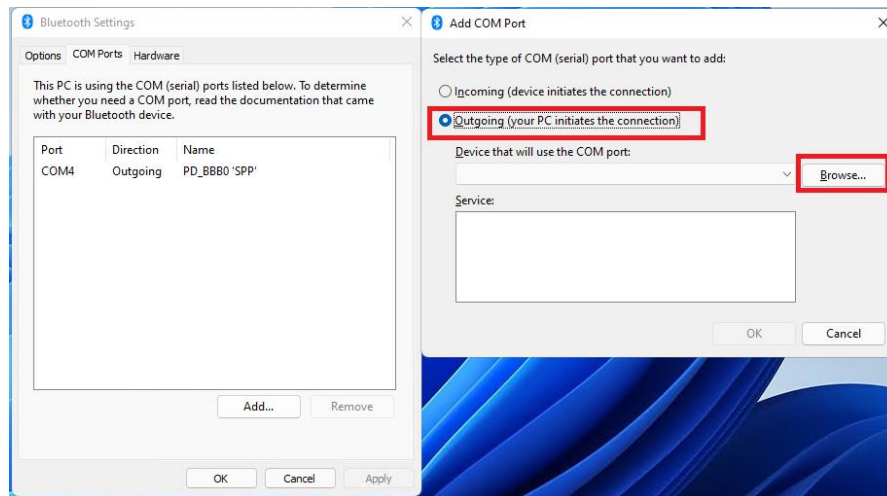

Fig.3
1.3 Open more Bluetooth options, select Outgoing (computer boot connection) COM port and add. Fig. 3